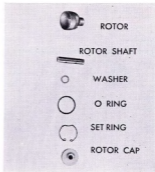

Fig. 43
2. Wash dirt from rotor cap and inside of rotor with gasoline. (Fig. 43)